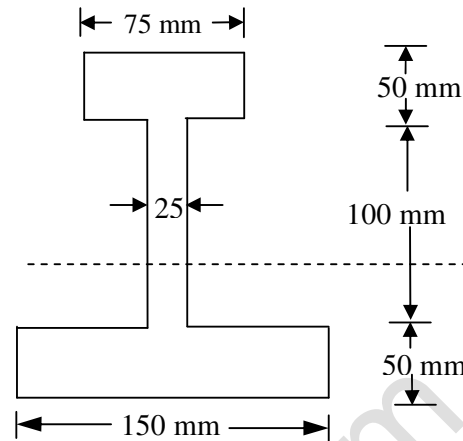

Figure 4
8. A beam has cross-section as shown in Figure 4. If the shear force acting on this is 150 kN, Draw the shear stress distribution diagram across the depth. (15M)
7. The cross-section of a cast iron beam is as shown in Figure 4. The top flange is in compression and bottom flange is in tension. Permissible stress in tension is  $30 \text{ N/mm}^2$  and its value in compression is  $90 \text{ N/mm}^2$ . What is the maximum uniformly distributed load the beam can carry over a simply supported span of 5 m? (15M)